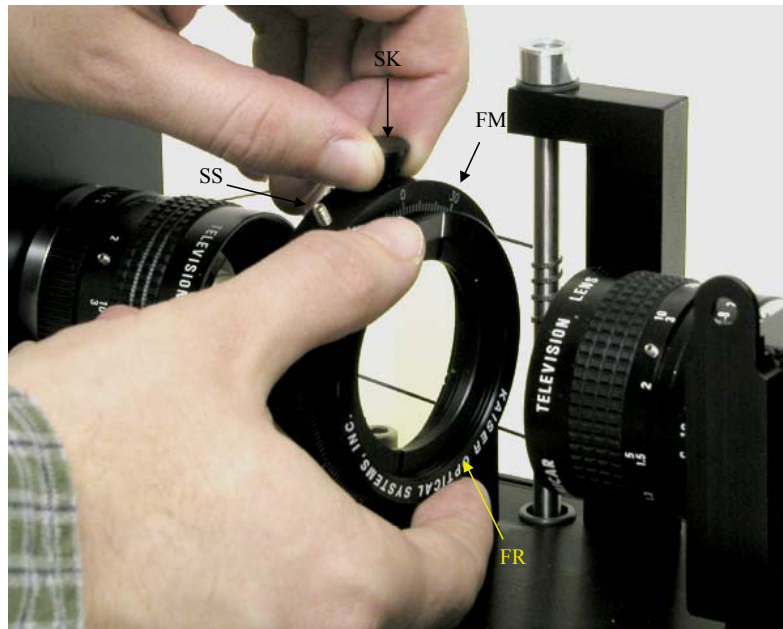

Figure 4.5. Removing the notch filter. Labeled are the spring-loaded knob (SK), setscrew (SS), filter mount (FM), and filter mounting ring (FR).
1. Grasp the filter by the mounting ring (FR in Figure 4.5).
2. Pull up on the spring-loaded knob (SK).
3. Slide the filter into the filter mount (FM), making sure that the lip of the filter mounting ring seats firmly against the filter mount.
4. Gently release the spring-loaded knob (SK).
5. Tighten the setscrew (SS) using a 0.05" Allen key or ball driver.
1. Loosen the setscrew (SS in Figure 4.5) using a 0.05" Allen key or ball driver.
2. Grasp the filter by the lip of the mounting ring (FR).
3. Pull up on the spring-loaded knob (SK).
4. Remove the filter-mounting ring from the filter mount (FM).
5. Gently release the spring-loaded knob (SK).